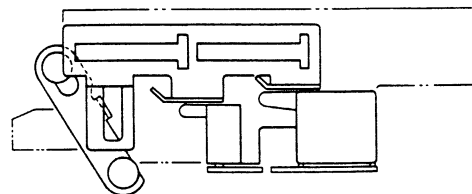

Fig. 15
4. As lever (A) shifts, it activates the switches as indicated in Figure 15. The tape/tuner switch is shifted to the "tape" position, the tape power switch is shifted to the "on" position, and the motor is activated.